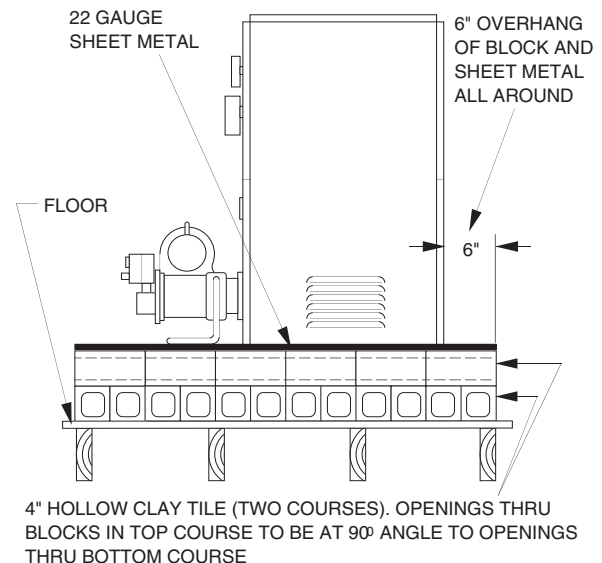

FIGURE 2.1
**HEATING PLANT FOUNDATION:** Concrete base pad is preferred. Loading is 195 lbs. per square foot; special reinforcements not required. If the floor is of combustible material and where permitted by local codes, fabricate a fireproof base as shown in Figure 2.1. Local codes may require different construction.